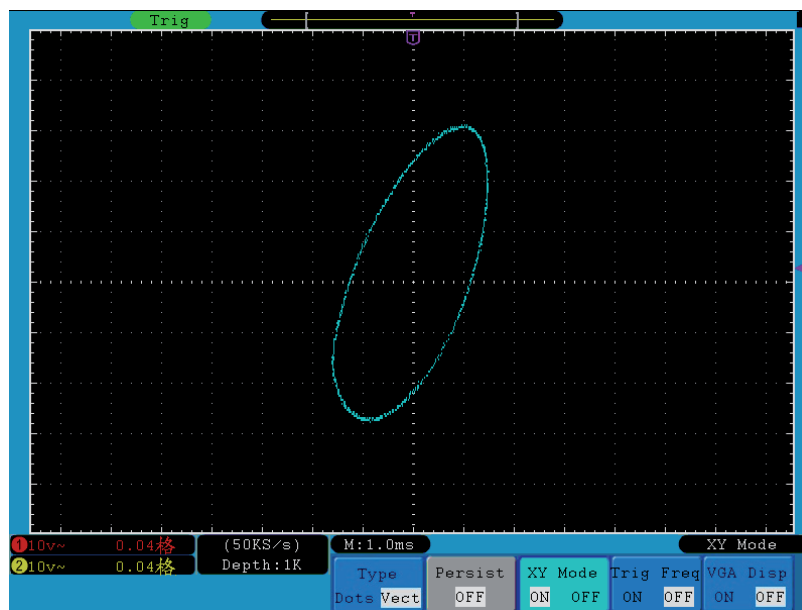

Figure 46. XY Display Mode.
- 2** Press the **H3** menu selection button to set XY Mode **ON**. The display format is changed to be XY mode (see Figure 46.).